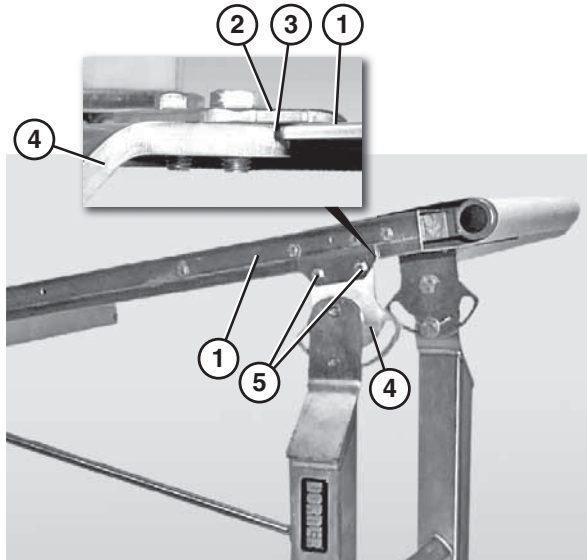

Figure 6
Make sure the conveyor (Figure 6, item 1) is seated between the clamp plate (Figure 6, item 2) and the lip (Figure 6, item 3) at the top of the stand (Figure 6, item 4) before tightening the clamp plate screws (Figure 6, item 5).
4. Attach the bracket (Figure 6, item 4) to the conveyor (Figure 6, item 1) and tighten the four screws (Figure 6, item 5) to 80 in•lb (9 N•m).